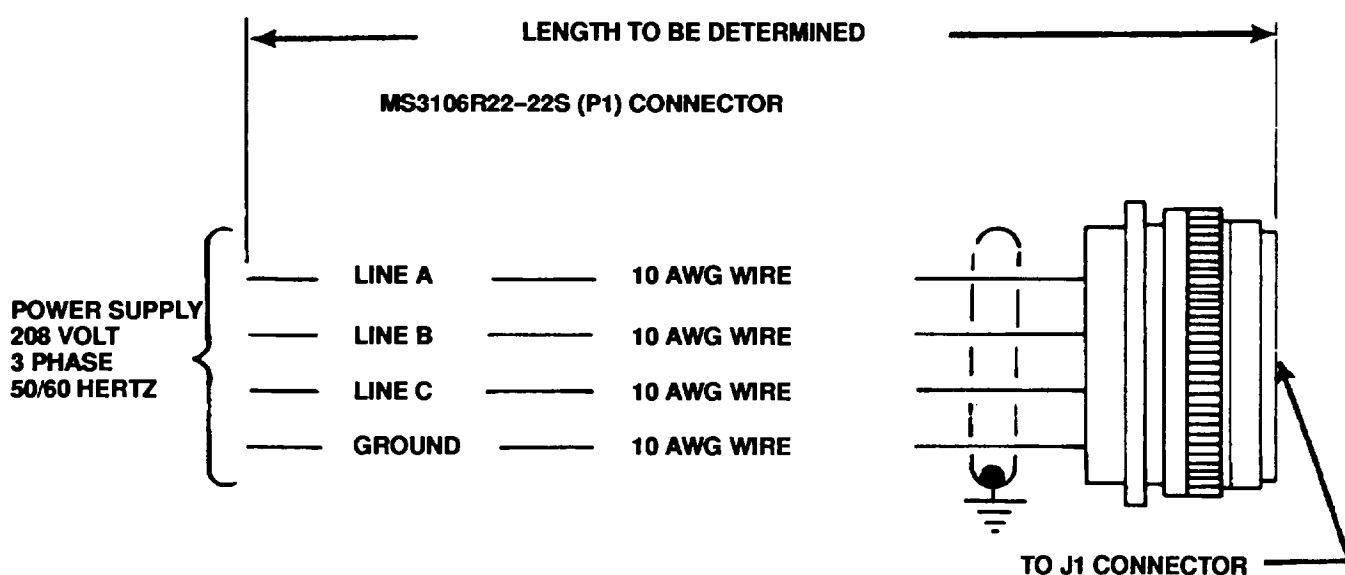

Figure 4-18. Input Power Cable Diagram
- h. Connect power cable to 208 volt, 3 phase, 50/60 hertz power source. (See para 4-12 and Figure 4-18.)
- (1) Apply power to power cable.
- (2) Use a multimeter set to AC voltage range of at least 250 volts for following tests.
- (3) Measure voltage between pin D of connector (P1) and a good chassis ground. Voltage must be zero (0). If more than zero voltage is observed, disconnect cable and check power source. Correct problem at power source.
- (4) With zero voltage on pin D of (P1) connector, check voltages between remaining pins as shown on following chart.
- b. Fabricate input power cable in accordance with Figure 4-18. Cable must be shielded with QQ-B-575. tubular wire braid 0.50 (12.7 mm) ID or equal and grounded to each connection end.